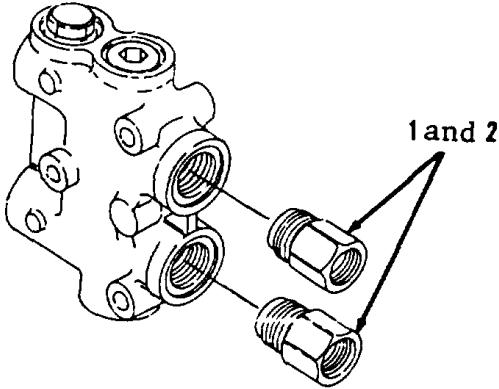
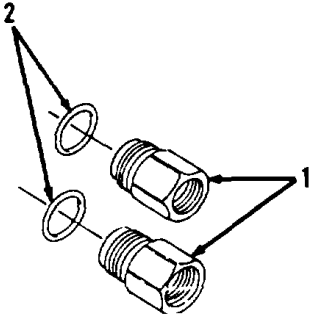

Figure 10-109.
Figure 10-110.
- 1. Remove two items 1 and 2 as an assembly (Figure 10-109).
- 2. Remove two adapters (1).
- 3. Remove and discard two preformed packings (2) from adapters (1, Figure 10-110).